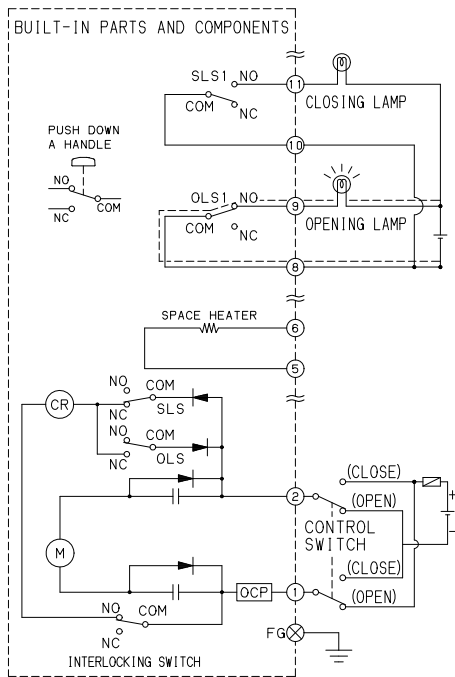

Fig. 14
(4) The actuator shaft rotates and the opening cam breaks NC contact of OLS limit switch to stop the motor drive. At the same time, a circuit contacts between ⑧ and ⑨ of OLS1 limit switch to light an opening indicator lamp. (Fig. 14)